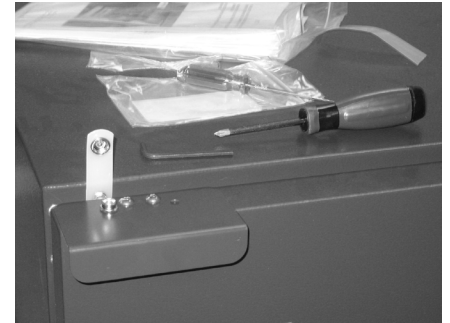

Figure 2-1
d. Install handle to top of door. With a phillips screwdriver remove the button snap from the top of the door. Place the handle on the door as shown and secure with (2) hex cap screws provided, using the 5/32" hex key. Secure the button snap to the top of the door with the phillips screwdriver. Refer to Figure 2-1.